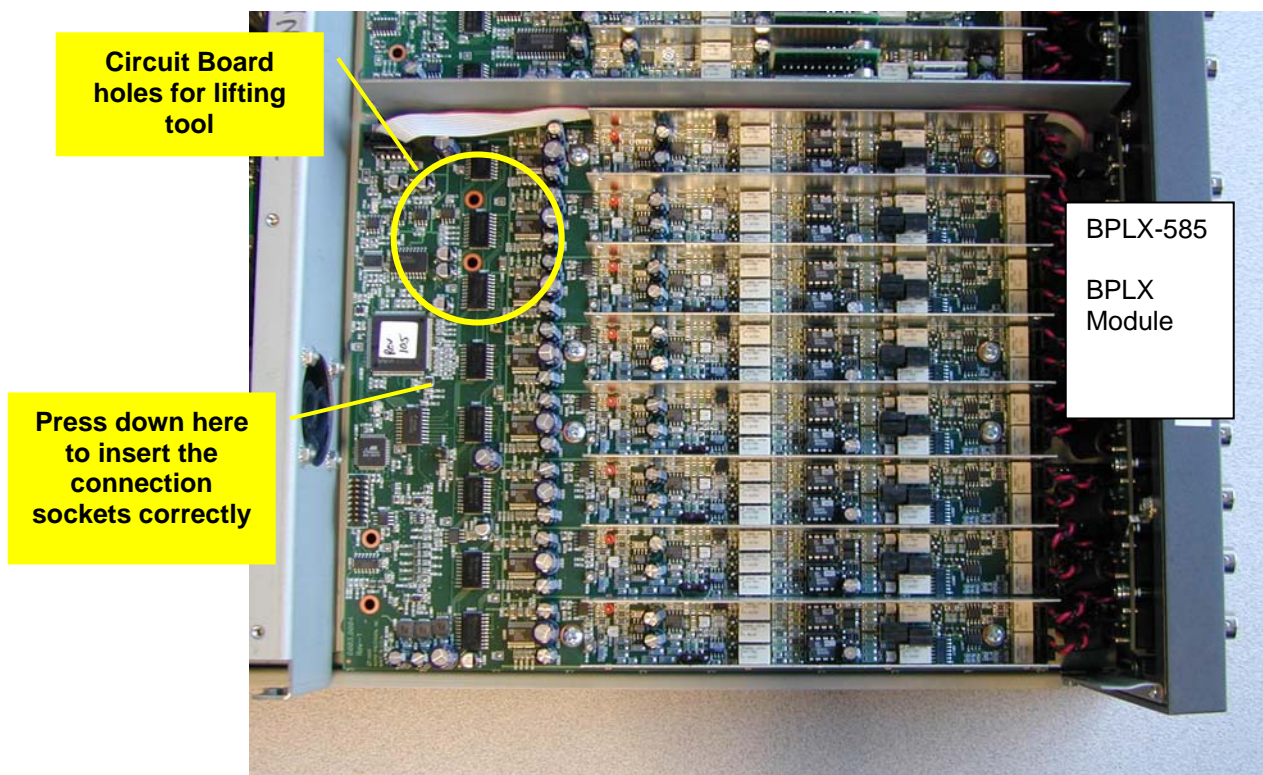

Figure 6 Removing the BPLX module form the APX-585 Chassis plate.
17. When all the 6-32 screws are removed, the BPLX module is ready to be removed. The BPLX module is attached to the BRIO module by two interconnect sockets located on the underside of the BPLX module. NOTE: Do not use a screwdriver or other tools to pry the BPLX module up to disconnect the BPLX module from the BRIO module. The proper tool to lift up the BPLX module is an IC Puller tool (shown in Figure 5). Insert the IC Puller tool into the holes on the BPLX module indicated in Figure 6 and then gently lift up.
19. Remove the replacement BPLX module from the antistatic bag and place the module onto the APX-585 Chassis Plate. Align the screw mounting holes in the BPLX module over the mounting standoffs. When the module is aligned correctly the threaded standoff holes will be visible through the screw mounting holes. Press down firmly on the BPLX module on the place noted in Figure 6.